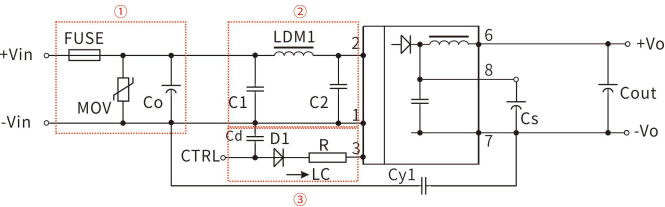

Figure 3
- ① Part ① in Figure 3 is used for EMS testing; Part ② is used for EMI filtering, which can be selected according to requirements;
- ②  $V_c$  is the voltage of the Ctrl terminal relative to the input ground GND,  $V_d$  is the forward voltage drop of D1,  $I_c$  is the current flowing into the Ctrl terminal, generally 5-10mA, and the peripheral circuit of the Ctrl terminal is shown in Figure 3-③;
- ③ If there is no parameter description attached to the component in the figure, this component is not required in the periphery of this model.